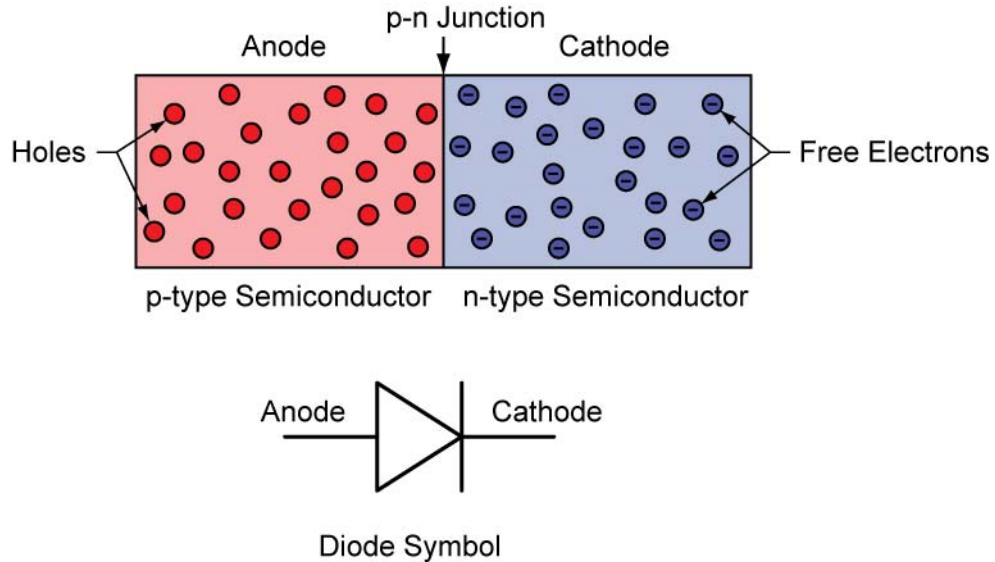

Figure 4: p-n Junction as the p-type and n-type Semiconductors Come in Contact
- p-n Junction: A p-n junction is formed by joining p-type and n-type semiconductors together. The p-type semiconductor has many holes; the n-type semiconductor contains many free electrons. Holes and electrons are current carriers because they both transport electric charge in an electric current. A semiconductor device containing one p-n junction, such as the one illustrated in Figure 4, is called a diode. The p-type region of a diode is called the anode; the n-type region is called the cathode.